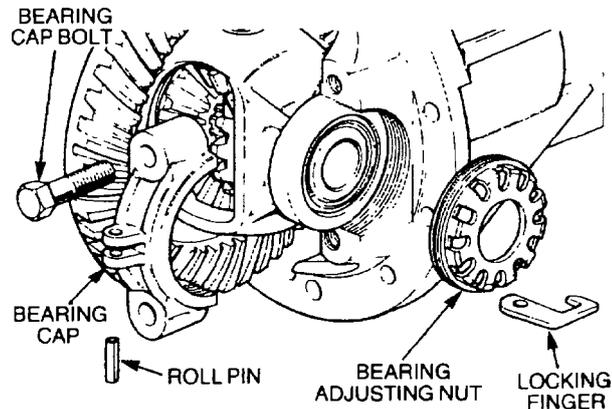

Figure 229 Locking Finger and Adjusting Nut Removal
- b. Remove the roll pins securing the adjusting nut locking fingers to the side bearing caps (Figure 229). Remove the locking fingers and unscrew the adjusting nuts.